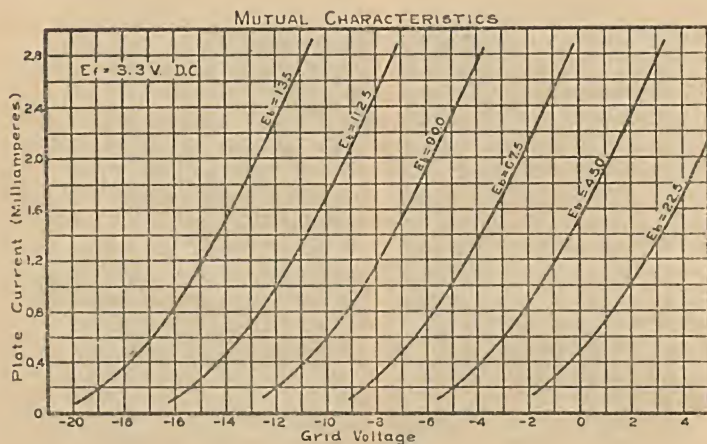

Fig. 5
**Mutual Characteristics**—Fig. 5 shows a family of grid voltage-plate current curves for various plate voltages.